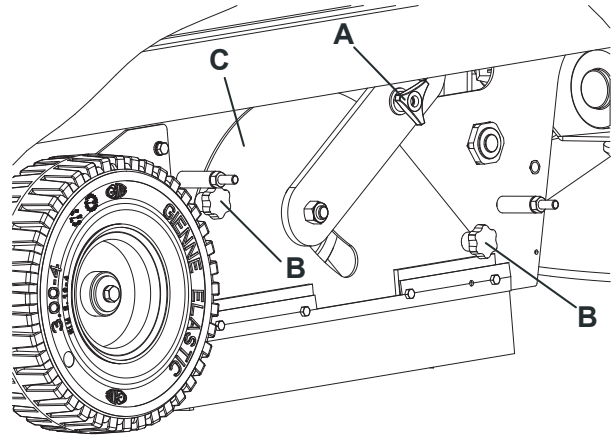

Figure 4
1. Drive the machine on a level floor and engage the parking brake with the pedal (3) and the lever (4).
2. Turn the ignition key (72) to "0".
3. Unscrew the knobs (23) and remove the right door (22).
4. Loosen the knob (A, Fig. 4).
5. Unscrew the knobs (B, Fig. 4) and remove the broom compartment cover (C).
10. Install the broom compartment cover (C, Fig. 4) and tighten the knobs (B) and (A).
11. Install the right door (22), then tighten the knobs (23).